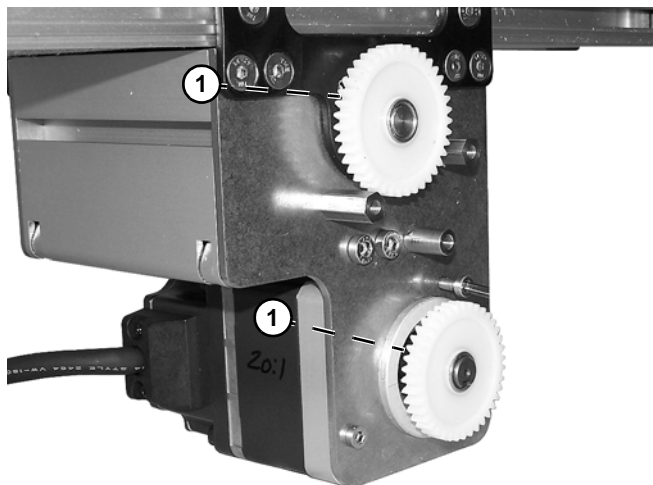

Figure 6
4. Loosen set screws (**Figure 6, item 1**) to remove drive and driven gears.